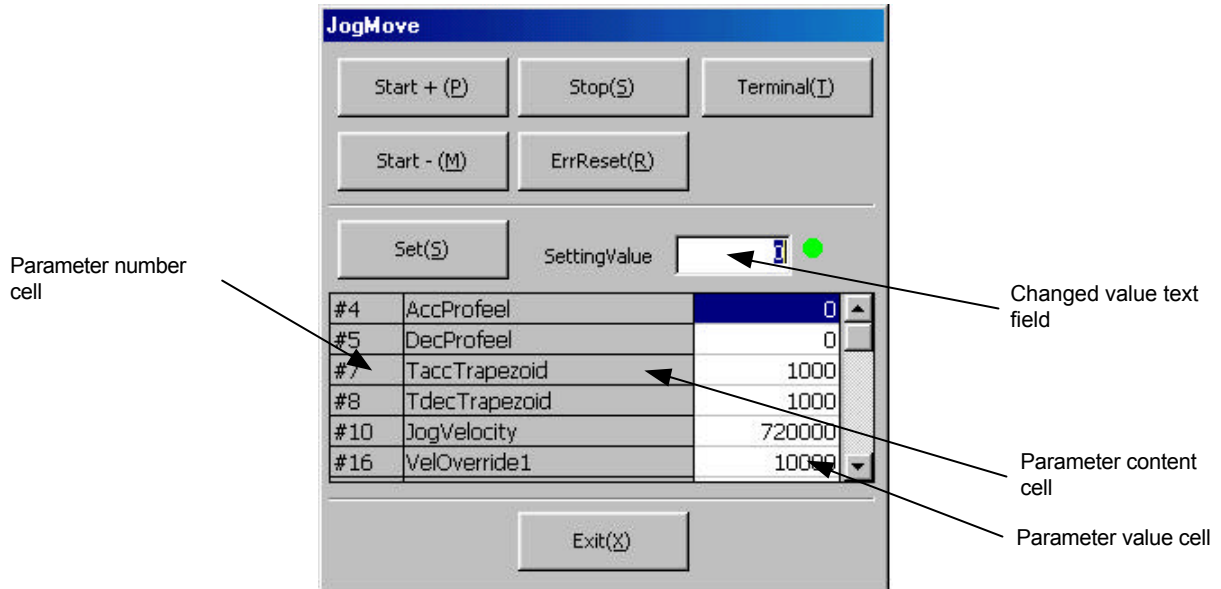

Figure 7.26 “JogMove” dialog box
Click “Jog (J)” in the “DriveMenu” dialog box to display the “JogMove” dialog box (see Figure 7.26). If the connection with the driver is established, the current values of the related parameters are read and can be edited.